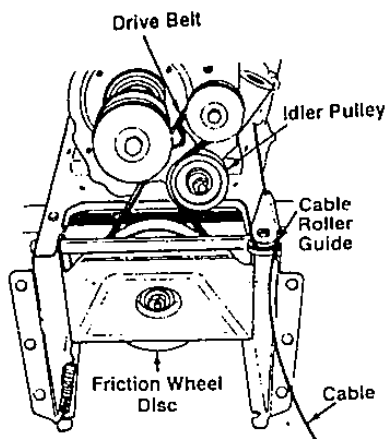

FIGURE 28
**NOTE:** When reassembling the two halves of the unit, the auger drive cable must be routed through the cable roller guides as shown in figure 28.
- Pull the idler pulley towards you and remove the drive belt from the pulley. You will find the idler pulley in front of the engine and under the belt cover that you removed earlier. See figure 28.